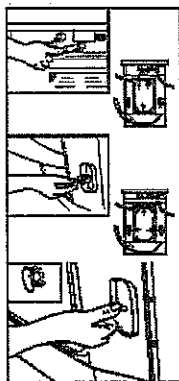

Fig.2
- Dismantle the packing bolts as shown in Fig. 2. The packing bolts are designed for clamping anti-vibration components inside of the washing machine during the transportation process.